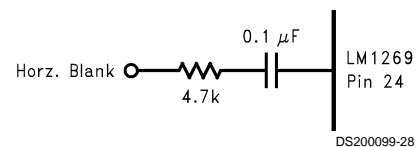

FIGURE 6. Standard Logic H Blank
**H Blank:** Some customers may still prefer to use a standard logic signal for the horizontal blanking. Pin 24 can be adapted to accept a logic input. It is necessary for the current flow into pin 24 to reverse for proper operation. Therefore the logic signal must be AC coupled into pin 24. Figure 6 shows the recommended circuit for a logic signal input. The blank signal must be a positive pulse.